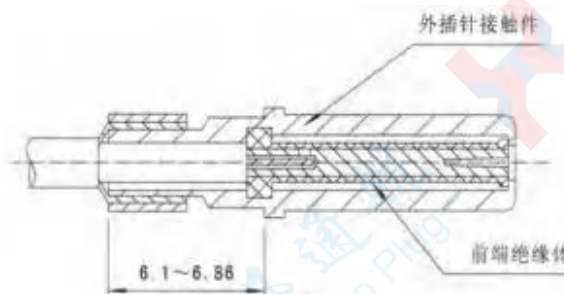

图27
⑤ Crimp the inner socket contact using crimping tool MH992 and locator K1303S.
⑥ As shown in Figure 27, install the internal assembly (from Figure 17) into the outer contact pin until it is positioned under the cable's shield braid and the inner socket contact is fully seated.